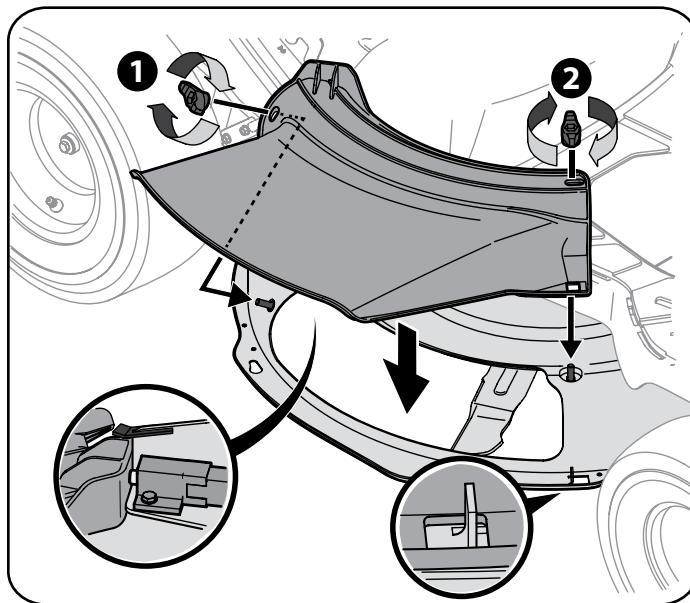

Figure 10
2. Install the deck chute into the deck discharge opening on the deck. The rear of the chute should be under the tab on the rear deck bracket. See inset in Figure 10. The studs on the deck surface will fit through the holes on the upper portion of the deck chute. The small tab on the deck lip area will fit through the square cutout on the lower portion of the deck chute. See inset of Figure 10.
3. Secure the deck chute by tightening the wing knobs removed earlier. See Figure 10.